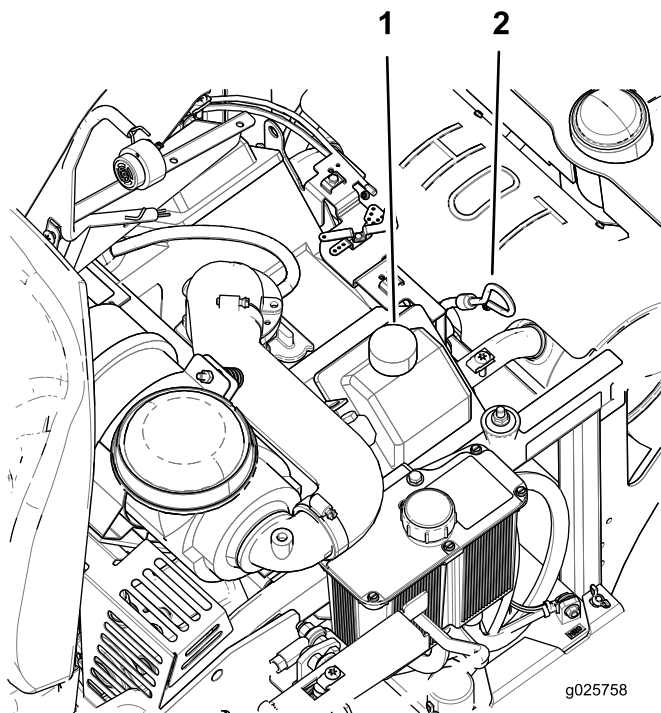

Figure 33
- Clean the area around the dipstick (Figure 33).
9. If the oil level is low, wipe off the area around the oil fill cap, remove cap and fill to the **full** mark on the dipstick (Figure 33). Do not overfill.
4. Slowly pour approximately 80% of the specified oil into the filler tube and slowly add the additional oil to bring it to the **full** mark on the dipstick (Figure 33).
5. Start the engine and drive to a flat area. Check the oil level again (Figure 33).